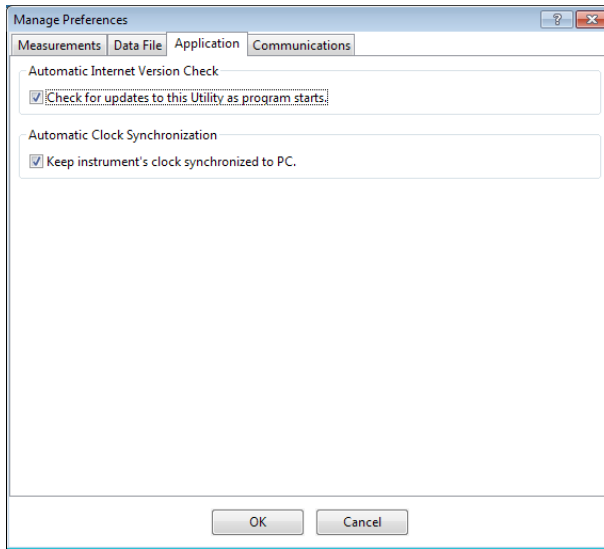

Figure 16 Application tab
- Application Tab (Figure 16):